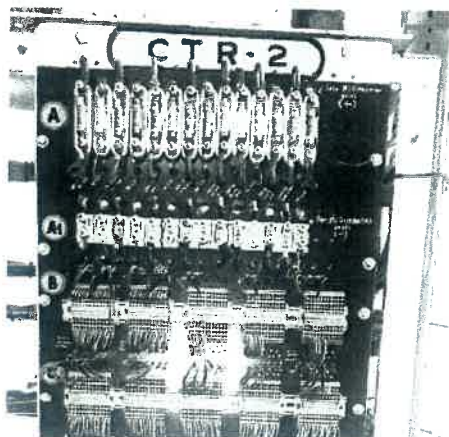

Figure-5
2. **Description details of Terminals** : The Rows of Screwless Disconnect Terminal / ARA Terminal shall be serially numbered as A, B, C, D.... and in each row, terminals shall also be serially numbered left to right starting from 1. (Annexure-A, Figure-5).
3. The Centre to Centre Distance between two rows of Screwless Disconnect Terminal / ARA Terminal shall be around 18cm to 20cm. After every cable terminated in a row, there should be a minimum gap equivalent to 1 ARA terminal or 02 spacers / dummy Screwless Disconnect Terminals. (Annexure-A, Figure-5).